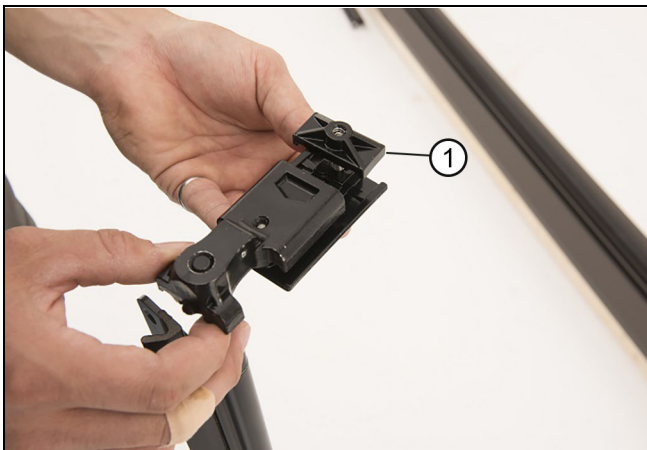
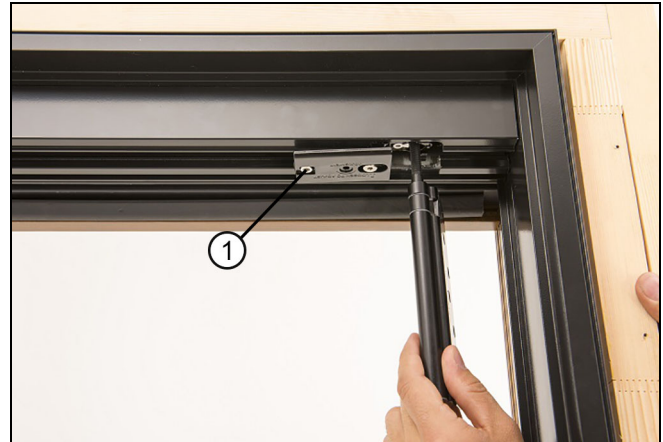

Figure 45
Figure 46
3. Rotate the clamp and tighten the bolt furthest from the jamb. See Figure 45 and Figure 46.